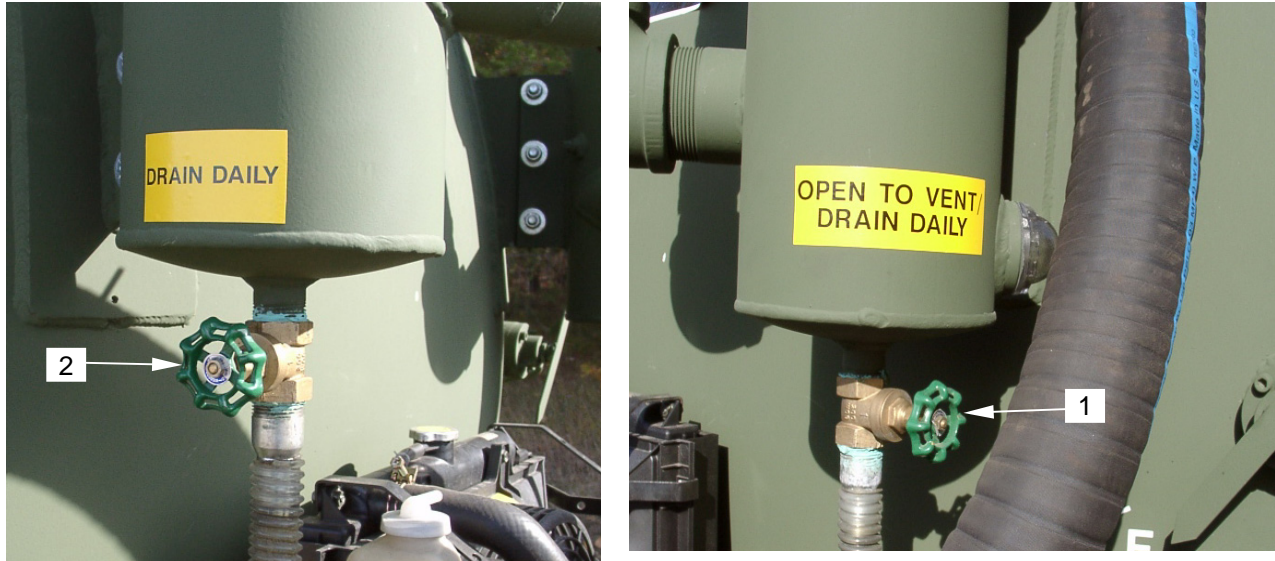

Figure 31. Moisture Trap and Oil Catch Muffler Drains
29. Open drain on moisture trap (**figure 31, item 1**) and oil catch muffler (**figure 31, item 2**). Observe discharge. An excessive amount of moisture draining from the trap or oil catch muffler indicate problems with the primary shutoff, requiring service. (Refer to WP 0019 00).
31. Close drain on moisture trap (**figure 31, item 1**) and oil catch muffler (**figure 31, item 2**) after accumulated moisture has drained.